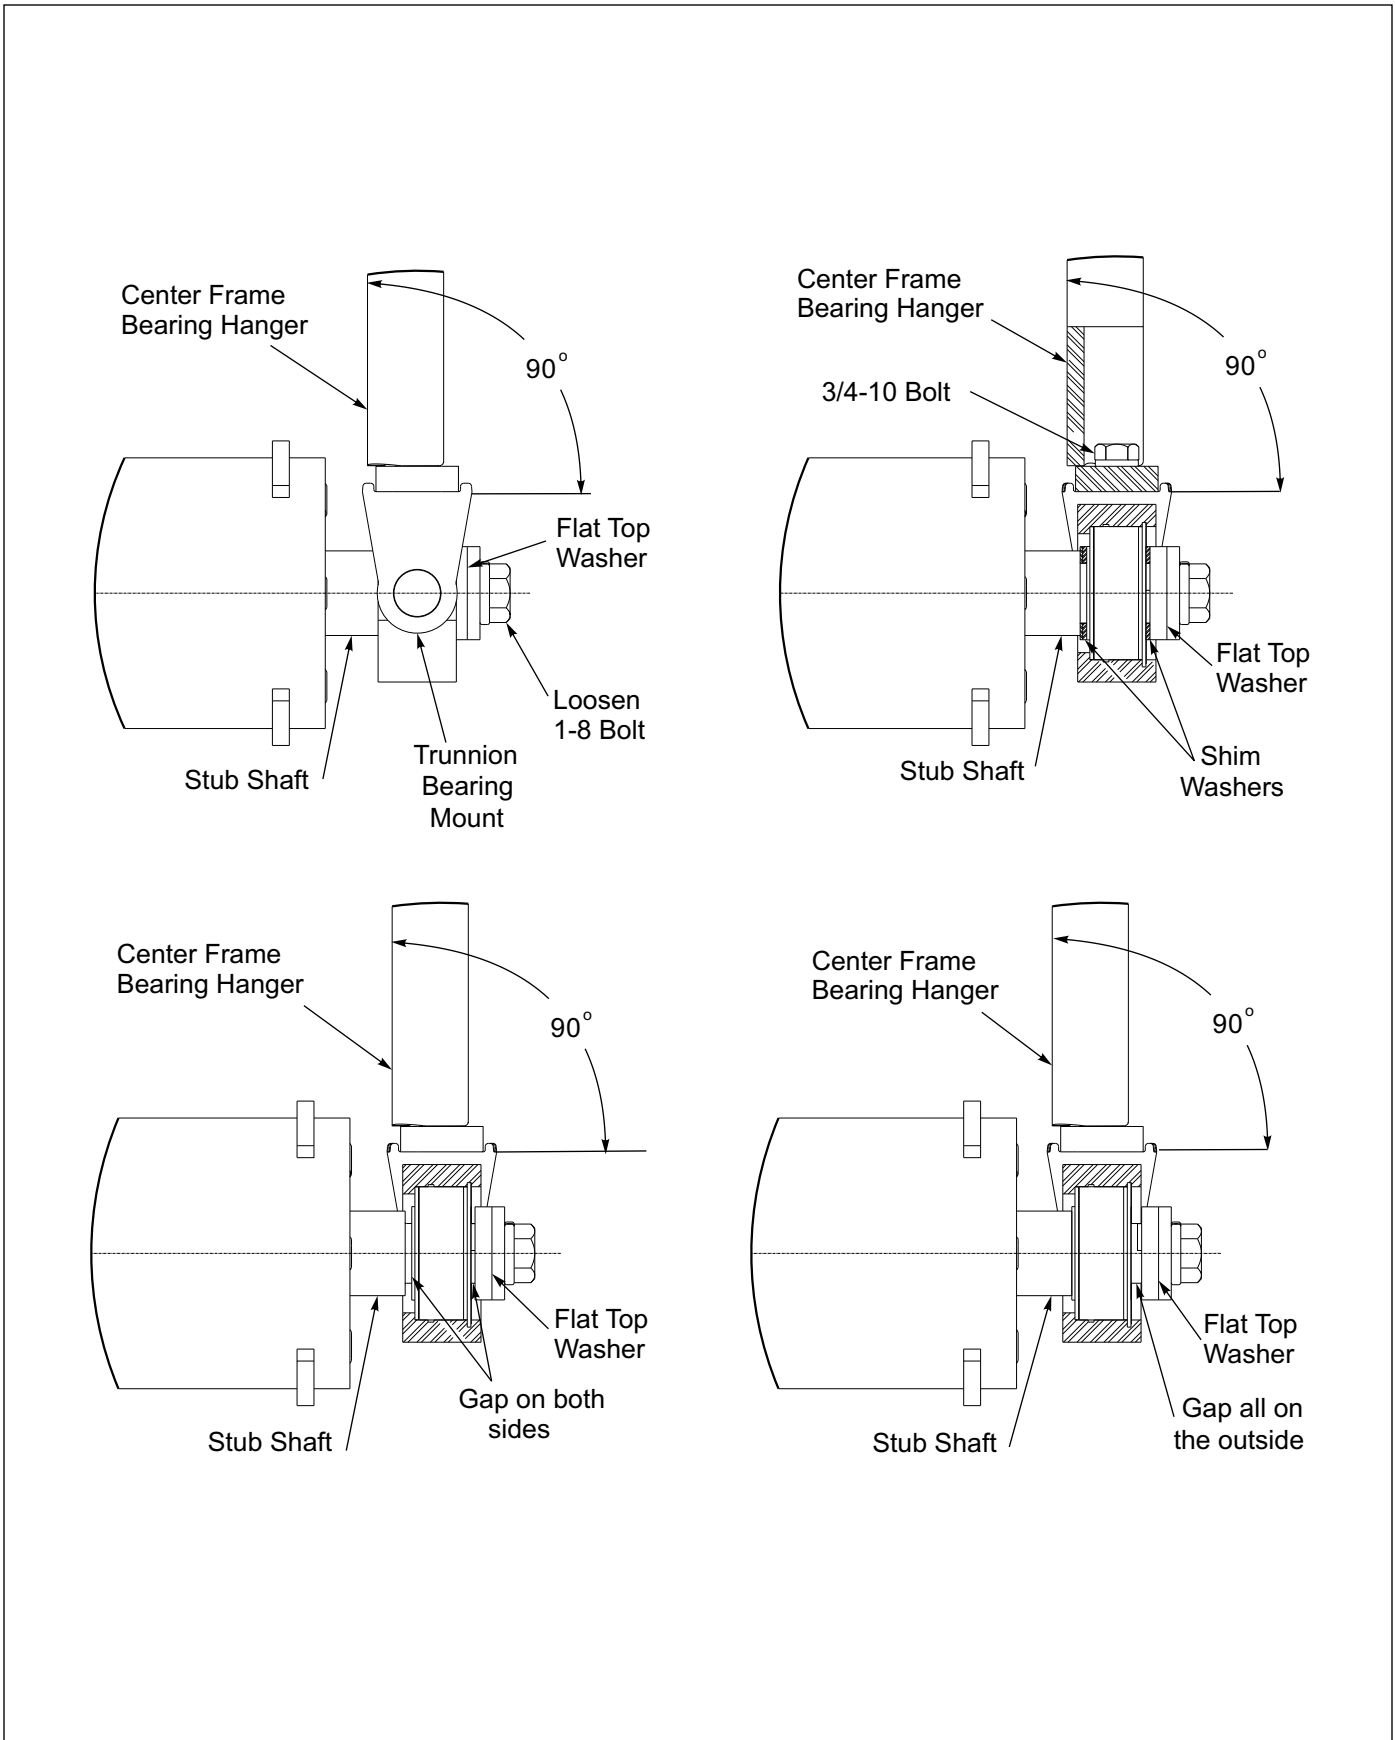

Figure 2-16: Trunnion Spacers
4. Look at each Trunnion Bearing Mount to make sure that it is sitting perpendicular to the Center Frame Bearing Hanger. If not adjust the Shim Washers accordingly, for each side there are two 11ga and one 14ga Shim Washers. Shim Washers can be all three on the inside between the Stub Shaft shoulder and the Trunnion Bearing, all three can be on the outside between the Trunnion Bearing and Flat Top Washer, or a combination on either side, but all three must be used to minimize the gap. See **Figure 2-16**.
See **Figure 2-16**.
5. Look at each Trunnion Bearing Mount to make sure that it is sitting perpendicular Wing Frame Bearing Hanger. If not adjust the Shim Washers accordingly, for each side there are two 11ga and one 14ga Shim Washers. Shim Washers can be all three on the inside between the Stub Shaft shoulder and the Trunnion Bearing, all three can be on the outside between the Trunnion Bearing and Flat Top Washer, or a combination on either side, but all three must be used to minimize the gap. See **Figure 2-16**.